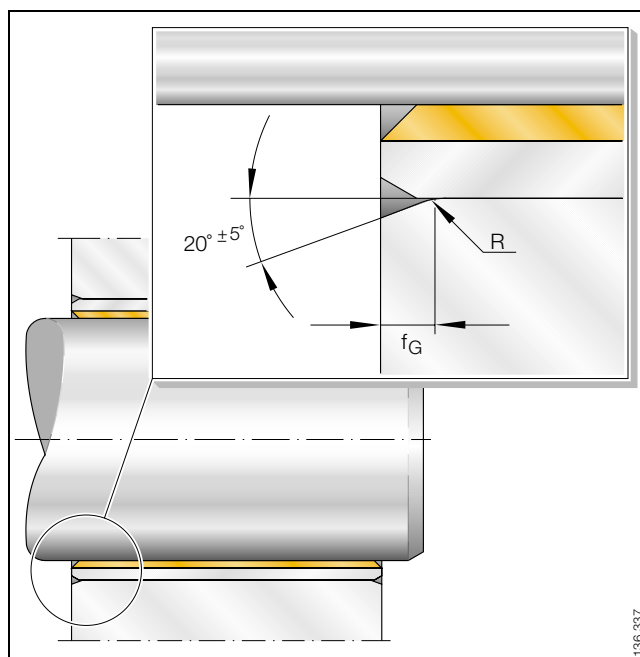

Figure 9 · Chamfer on housing for bush PAP
- chamfer $f_G \times 20^\circ \pm 5^\circ$ (Figure 9, Table 5). This chamfer makes it easier to press the bush into the housing.
Table 5 · Chamfer width f_G on the housing bore for bushes (Figure 9)